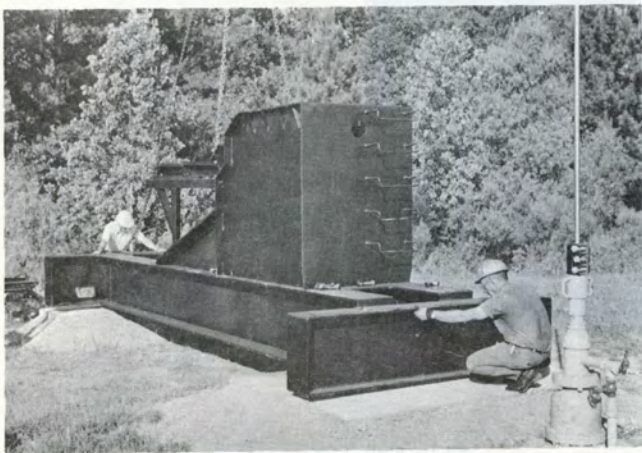

Figure 5
1. Figure 5 - Set base on foundation